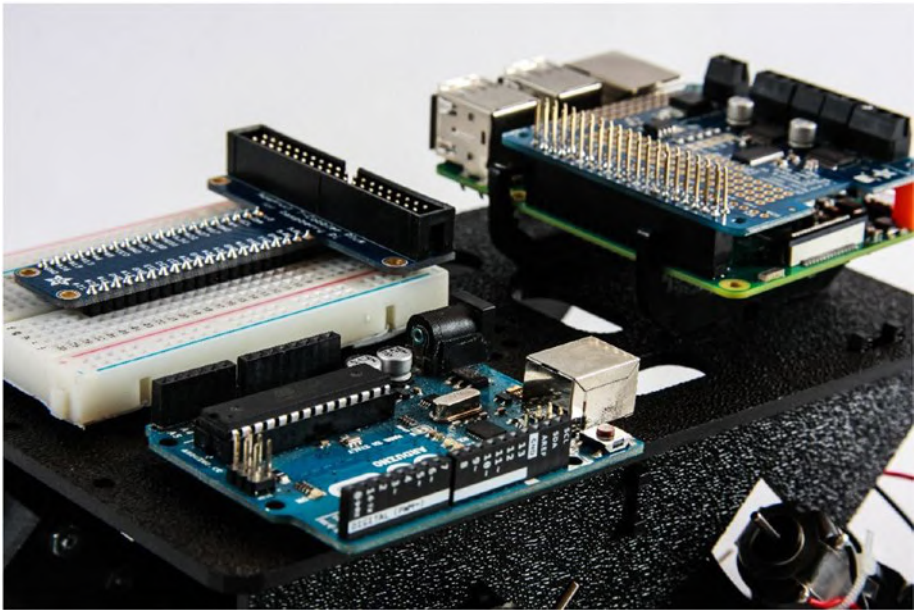

Figure 7-14. Arduino mounted on a double layer of mounting tape
4. Repeat the procedure for the Arduino (see Figure 7-14).